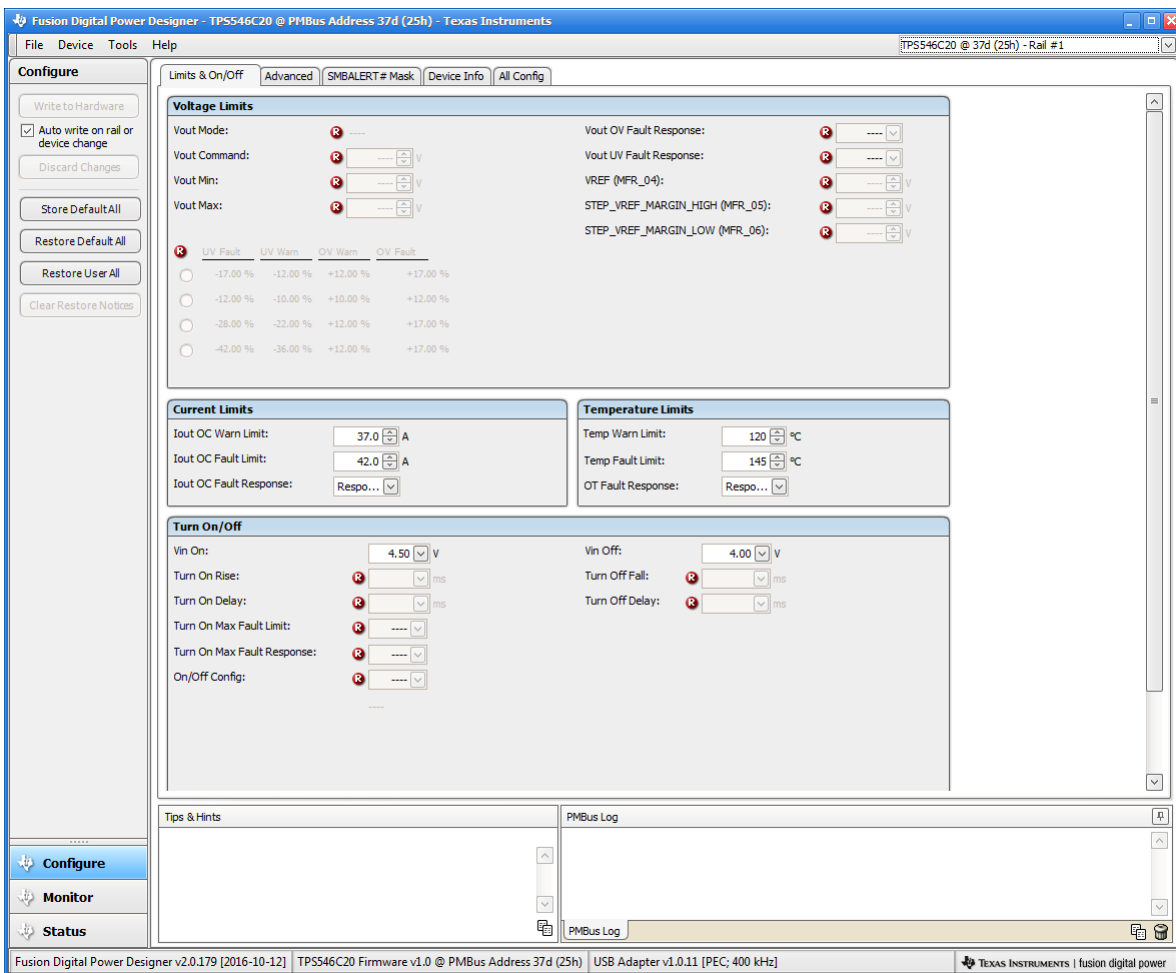

Figure 10-2. Configure – Limits and On/Off for U1 and U2
- Use the **Limits & On/Off** tab (Figure 10-2) to configure the following: